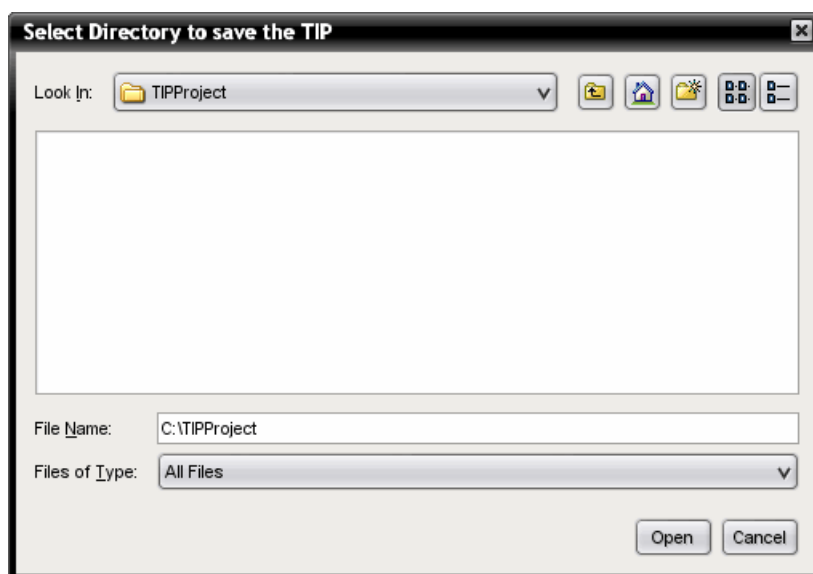

Figure 7-24 Save TIP dialog box
6. A dialog box opens for you to select a location to download the TIP, as shown in Figure 7-24. Select the location, and click **Open**. The TIP is downloaded to a specified location and opened in Studio for use.